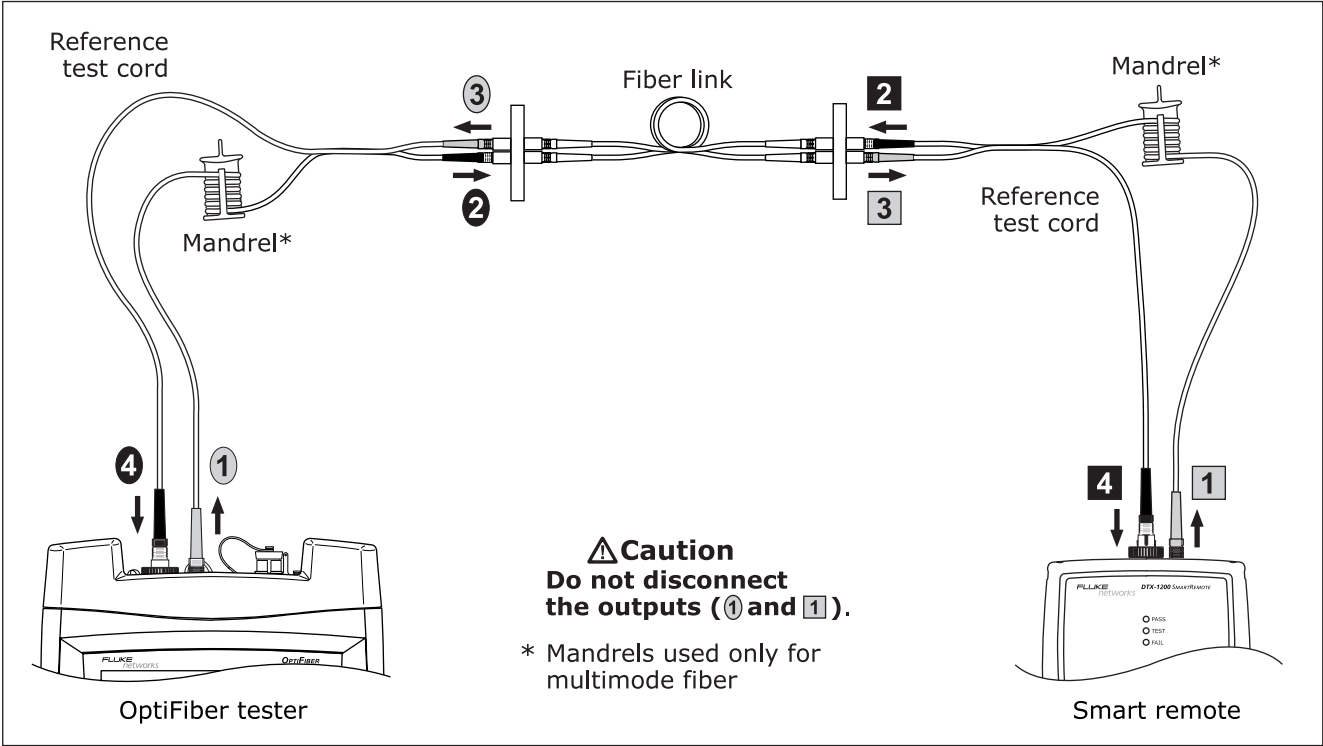

Figure 29. Smart Remote Mode Test Connections
- 11 Clean the connectors on the cabling to be tested; then connect the reference test cords and the short patch cords to the cabling, as shown in Figure 29.